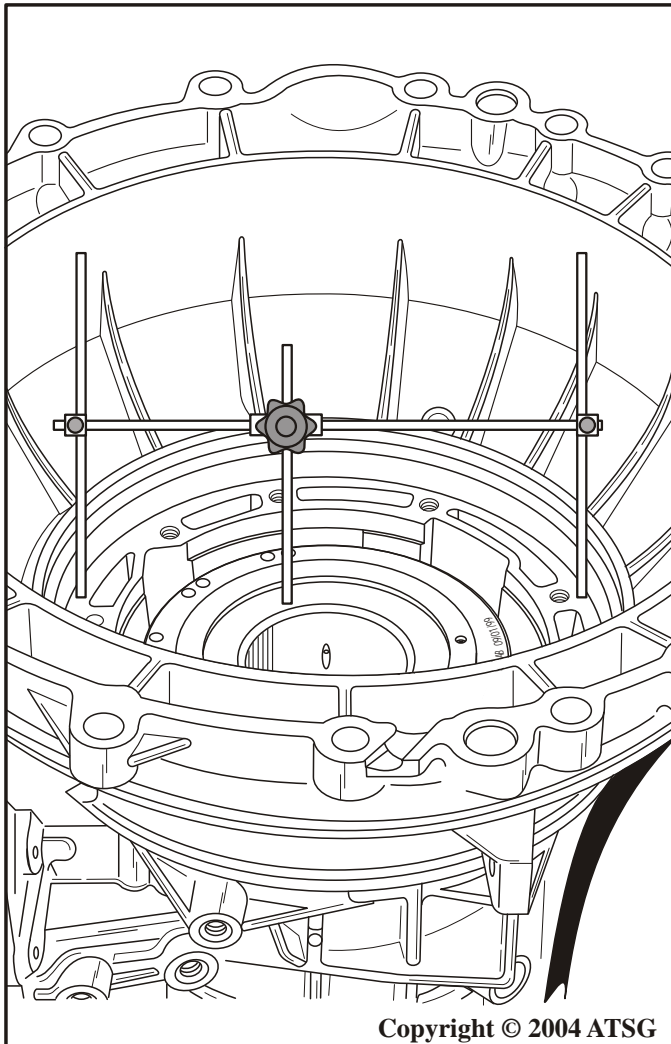

Figure 165
49. Install "H" gauge onto case pump surface and move center rod down to surface on the coast clutch where selective thrust washer rides, as shown in Figure 165.